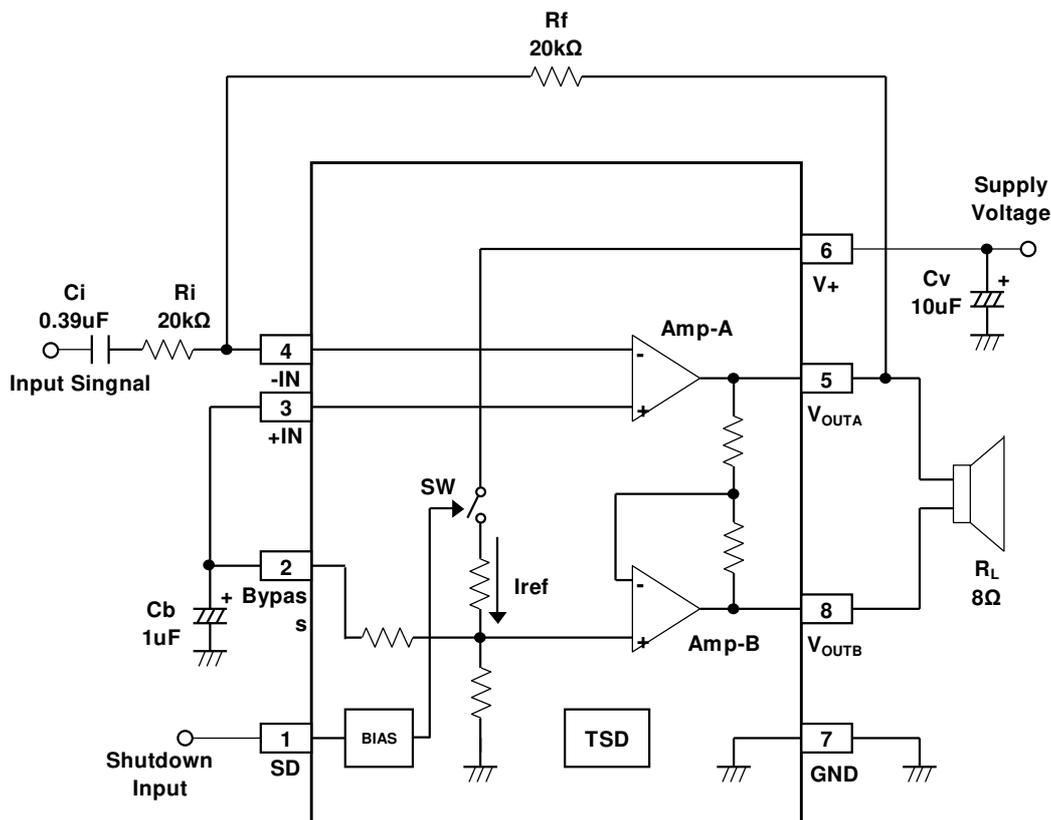

Fig1. Block diagram and Application circuit
Fig.1 shows the NJU7089 internal circuit. It comprises of two power amps (Amp-A, Amp-B), a bias circuit, and a thermal shutdown[TSD] circuit. Pin 4 and Pin 3 are the inverting and noninverting terminal to Amp-A. A reference voltage is provided at Pin 2, which should be connected to Pin 3. Pin 5 is the output terminal to Amp-A. A second operational amplifier, Amp-B is configured with a fixed gain of $A_v=-1$ and produces the inverted signal of Pin 5. The NJU7089 outputs at Pin 5 and Pin 8 produce a bridged configuration output to which a speaker can be connected. Twice the output voltage and four times output power in a bridged amplifier are possible as compared to a single-ended amplifier. When a SD mode is active, the internal switch(SW) turns off to stop an internal bias current. As a result, a SD mode reduces the supply current. The external capacitor (C_b) and Internal resistance eliminate disturbing pop noise during the SD mode ON/OFF. (Ref. Page 3) The external capacitor (C_b) value depends on the turn-on time. (Ref. Page 7)